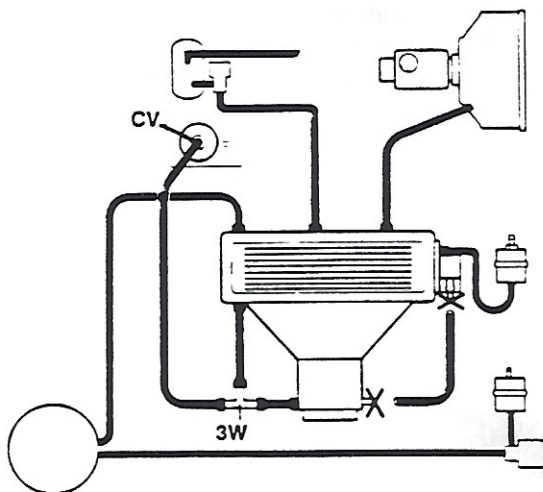

fig.66
Unseal the three way connector (3W) and reconnect the crankcase ventilation hose (CV) as indicated in Figure 66 and start the engine. The hoses and three way connector (3W) have already been checked and